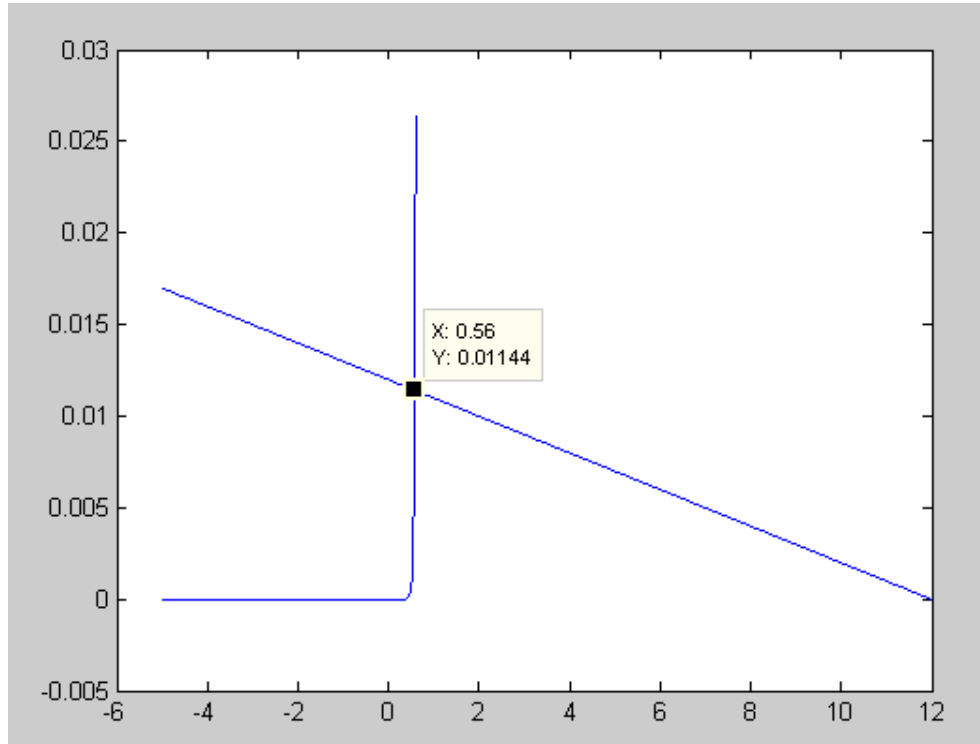

Figure 9. Load line as plotted using MATLAB. Point of intersection is the solution to the system.
Graphically, we can plot (1) and (2) on the same set of axis. This is done in figure 9 below.